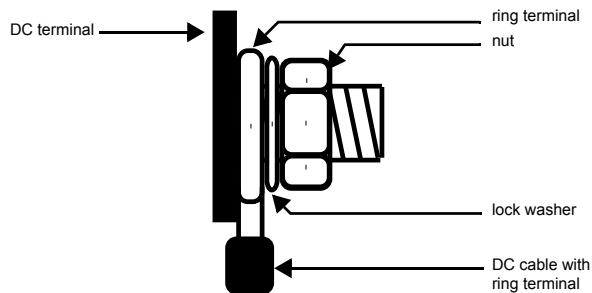

Figure 6 DC Cable Connections
Refer to Figure 6.
11. Install the lock washer and nut that are supplied with the inverter. Tighten the nut to a torque of 108–120 in-lbf (12.2–13.6 N-m). Make the connection snug enough so the ring terminal does not move around on the DC terminal, but do not overtighten. See Figure 6, “DC Cable Connections” on page 24.